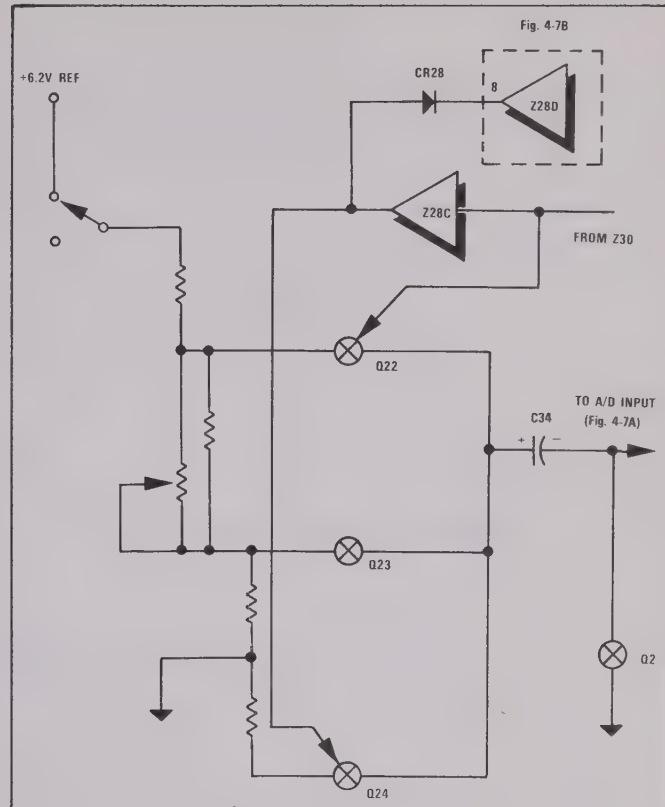
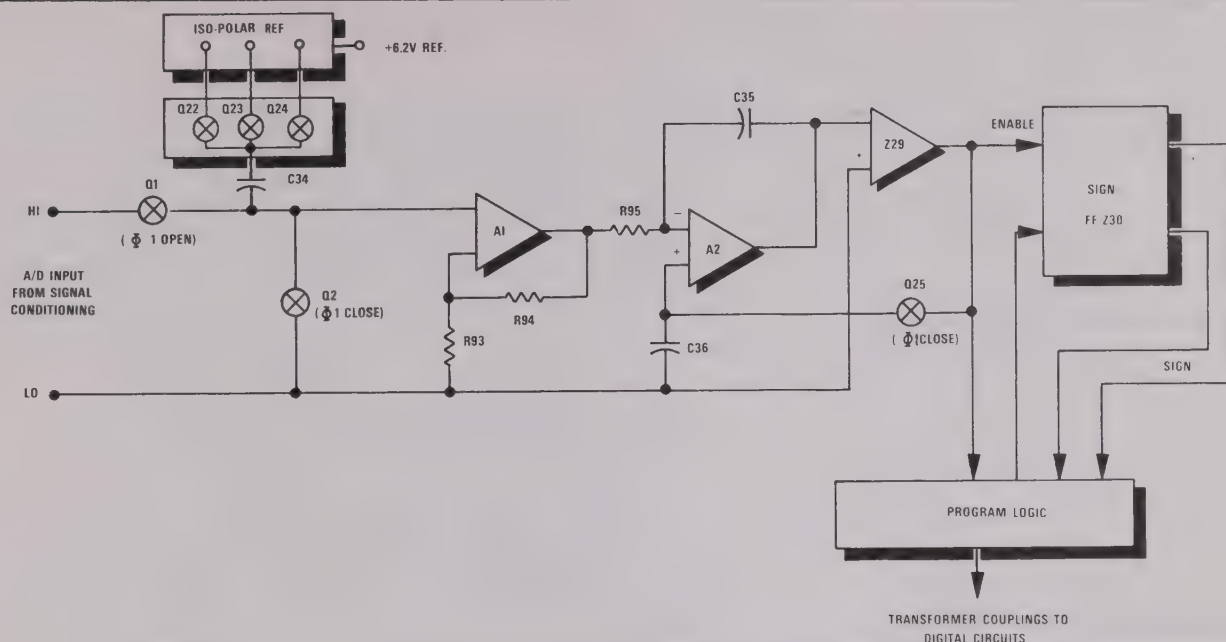
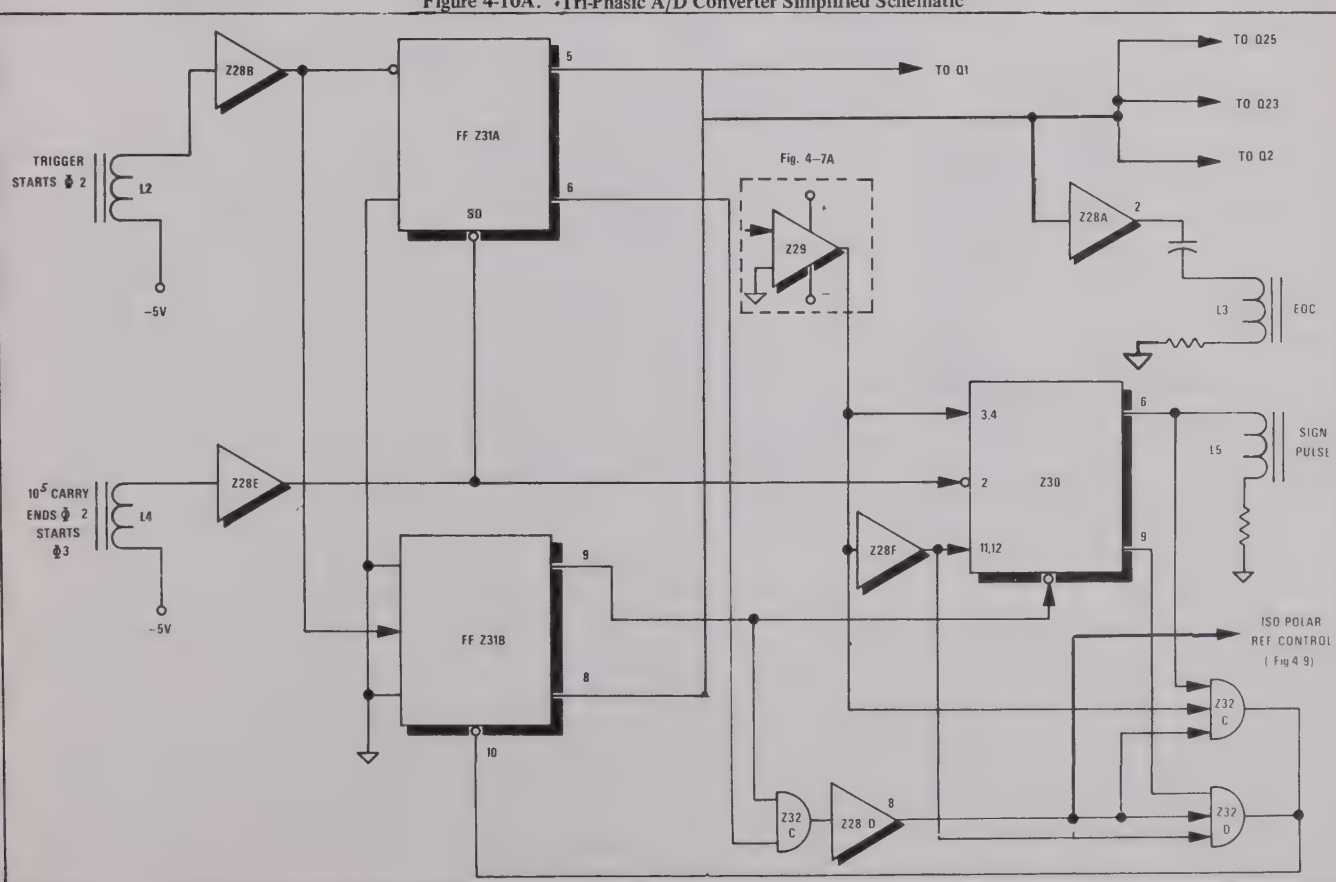

Figure 4-11. ISO-Polar Reference Switching Simplified Schematic
Figure 4-10A. Tri-Phasic A/D Converter Simplified Schematic
Figure 4-10B. Tri-Phasic A/D Converter Control Simplified Schematic
Operation of the Tri-Phasic A/D Converter in its 3 phases is described with the aid of simplified schematics of Figure 4-10A and Figure 4-10B, derived from the complete reference drawing in Section 6.
Referring to Figure 4-10A, during phase 1, switch Q1 is open, switches Q2, Q23, and Q25 are closed. Opening of Q1 removes the Signal Conditioned input from the A/D preamplifier A1. Closing of Q2 clamps the input to A1, and, with Q23, closes a path whereby C34 is charged from the ISO-Polar reference to 1 volt. Closing of Q25 permits capacitor C36 to store a charge compensating for the accumulated non-zero offset in A1, A2, and Z29.
Appearance of the trigger pulse in the secondary of transformer L2 (Figure 4-10B) signals the start of phase 2, and initiates the control actions by flip flop Z31A. The trigger causes pin 5 to go high and consequently Q1 to close. The output Z31A pin 8 goes low, and consequently opens transistor switches Q2, Q23, and Q25.
- Opening Q23 opens the charging path to C34 (Figure 4-10A) and leaves C34 charged to 1 volt and isolated during phase 2.
If the input signal had been positive, Z30A pin 11 would have been low and the clocking pulse would not have changed the high level at pin 6, thus producing no pulse across the primary of "sign" pulse transformer L5. If the input signal had been negative, Z30A pin 11 would have been high and the clocking pulse would cause Z30A pin 6 to go low producing a pulse across the transformer L5 primary and transmitting a negative sign indication to the Digital circuitry. The voltage level developed by flip flop Z30 at pin 9 controls the sign of the reference signal to be switched to the amplifier input at the start of phase 3. (Refer to Figure 4-11 in conjunction with Figure 4-10B.)